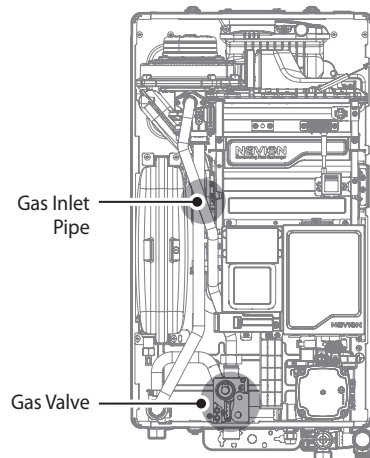

Figure 2. NCB500 Internal Components
7. With the internal components exposed, locate the gas inlet pipe and the gas valve in the middle of the unit, as shown in Figure 2.